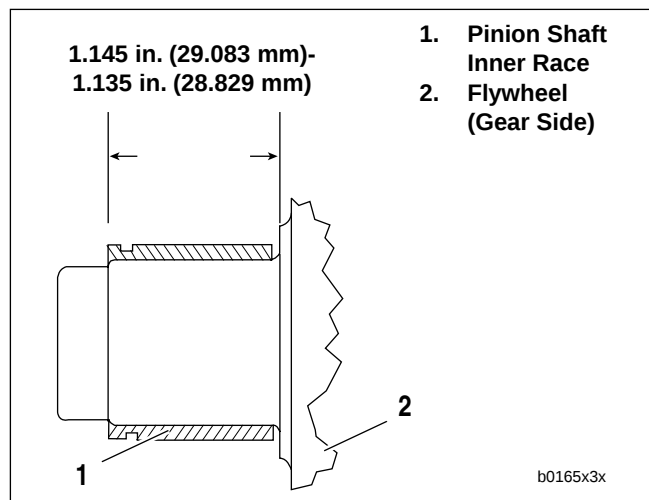
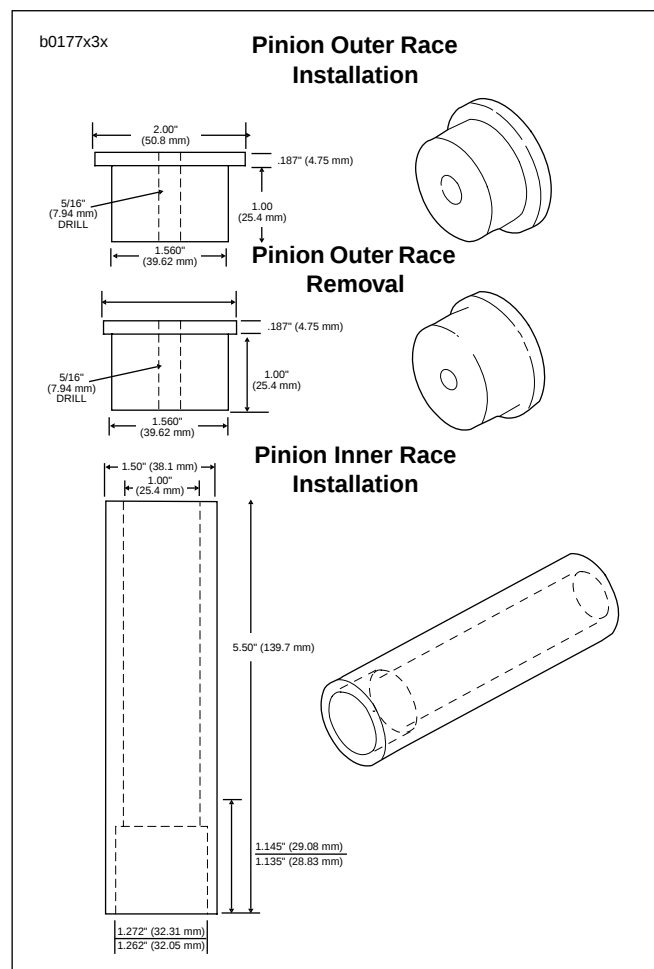

Figure 3-85. Inner Race Location
Figure 3-86. Pinion Shaft Bearing Tools
See Figure 3-85. Pinion bearings are identified as shown.
See Figure 3-86. Dimensions are shown for fabrication of tools used in pressing the outer race into or out of crankcase.
8. See Figure 3-85. Press **new** inner race on pinion shaft as shown. The **new** inner race must be ground by a competent machinist to OD dimension range for the finished lapped ID of the outer race. See Table 3-12. The finished inner race must meet these specifications. For necessary dimensions for constructing a press-on tool see Figure 3-86. When the tool bottoms against the flywheel, correct inner race location is automatically established.